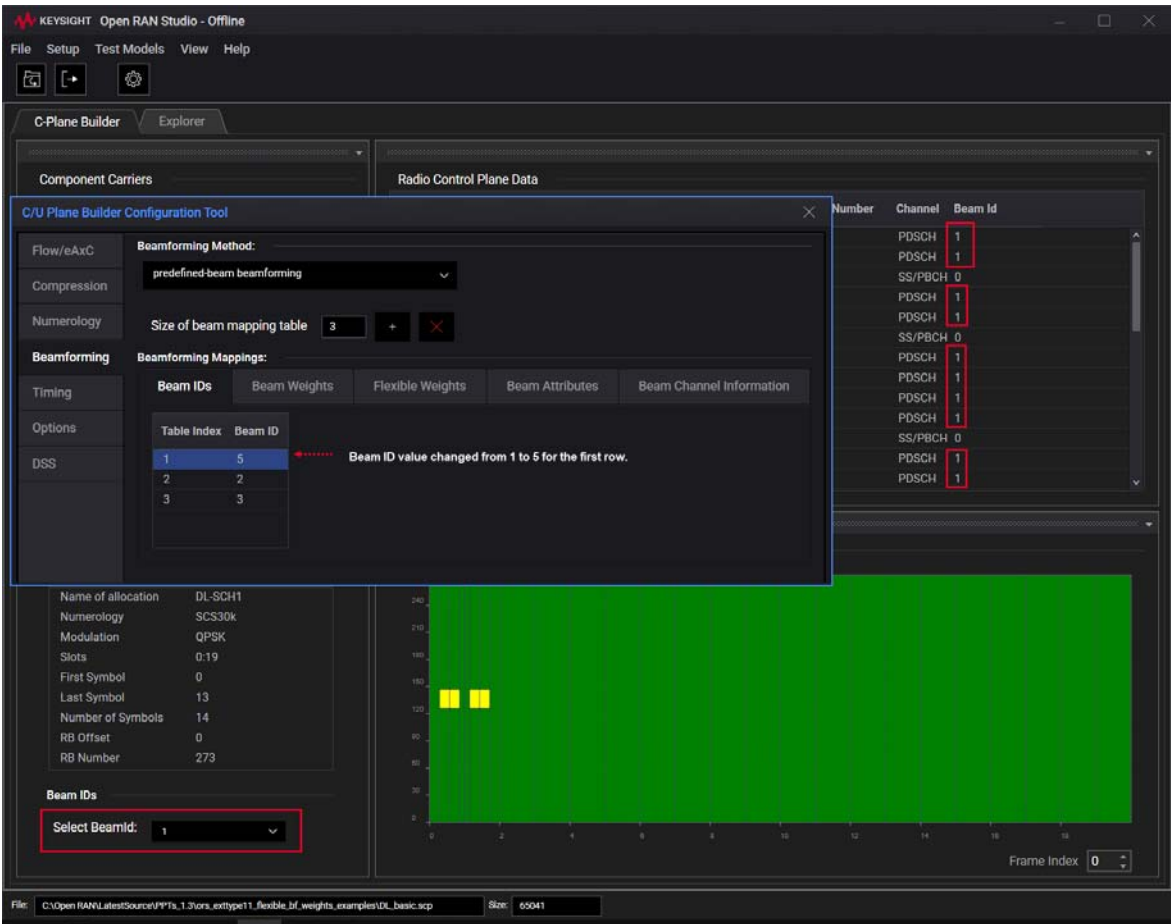
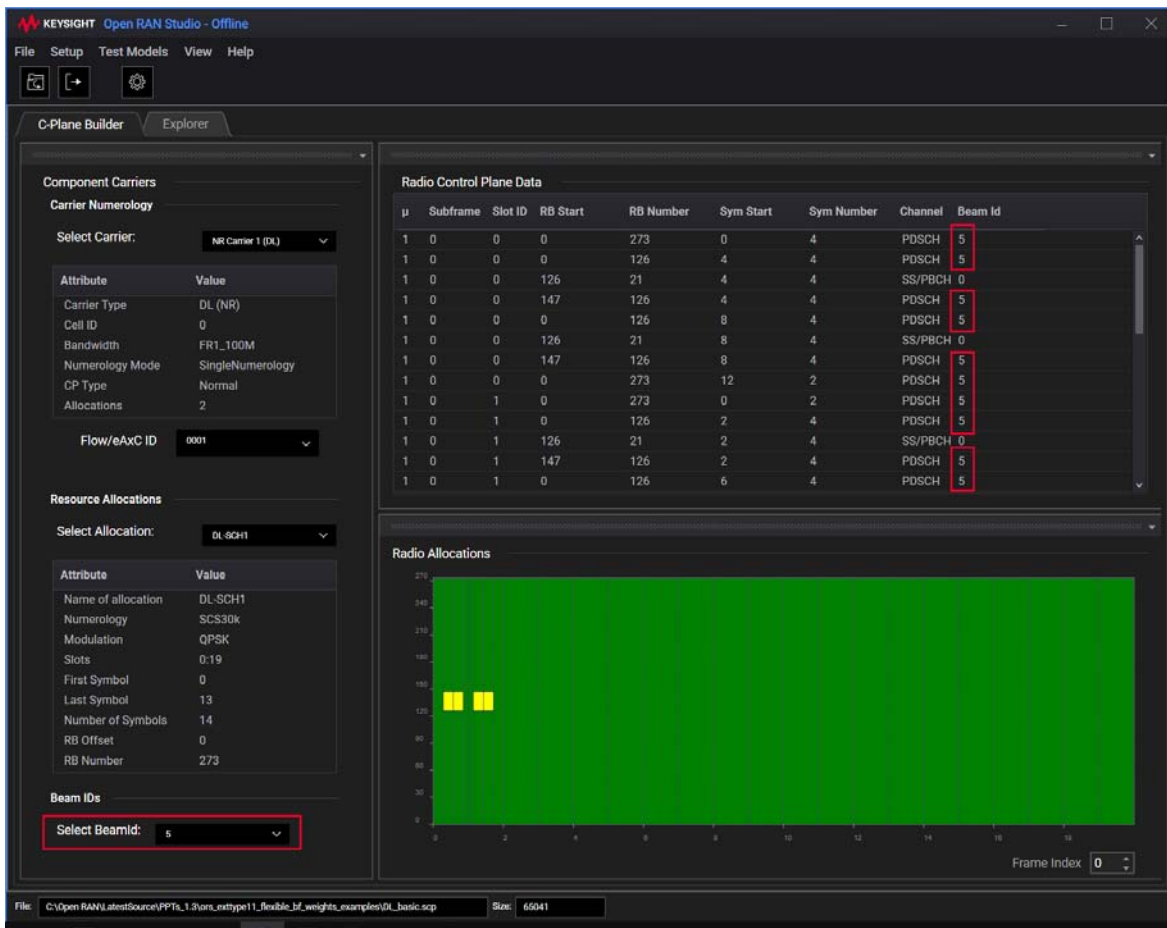

Figure 293 Changing Beam ID value already assigned to an allocation
Figure 294 Updated Beam ID values displayed in the Radio Control Plane Data
- d After you assign Beam ID values to specific Radio allocations, changing that value in the C/U Plane Builder Configuration Tool updates it in the Radio Control Plane Data for all allocations, as shown in Figure 293 and Figure 294.